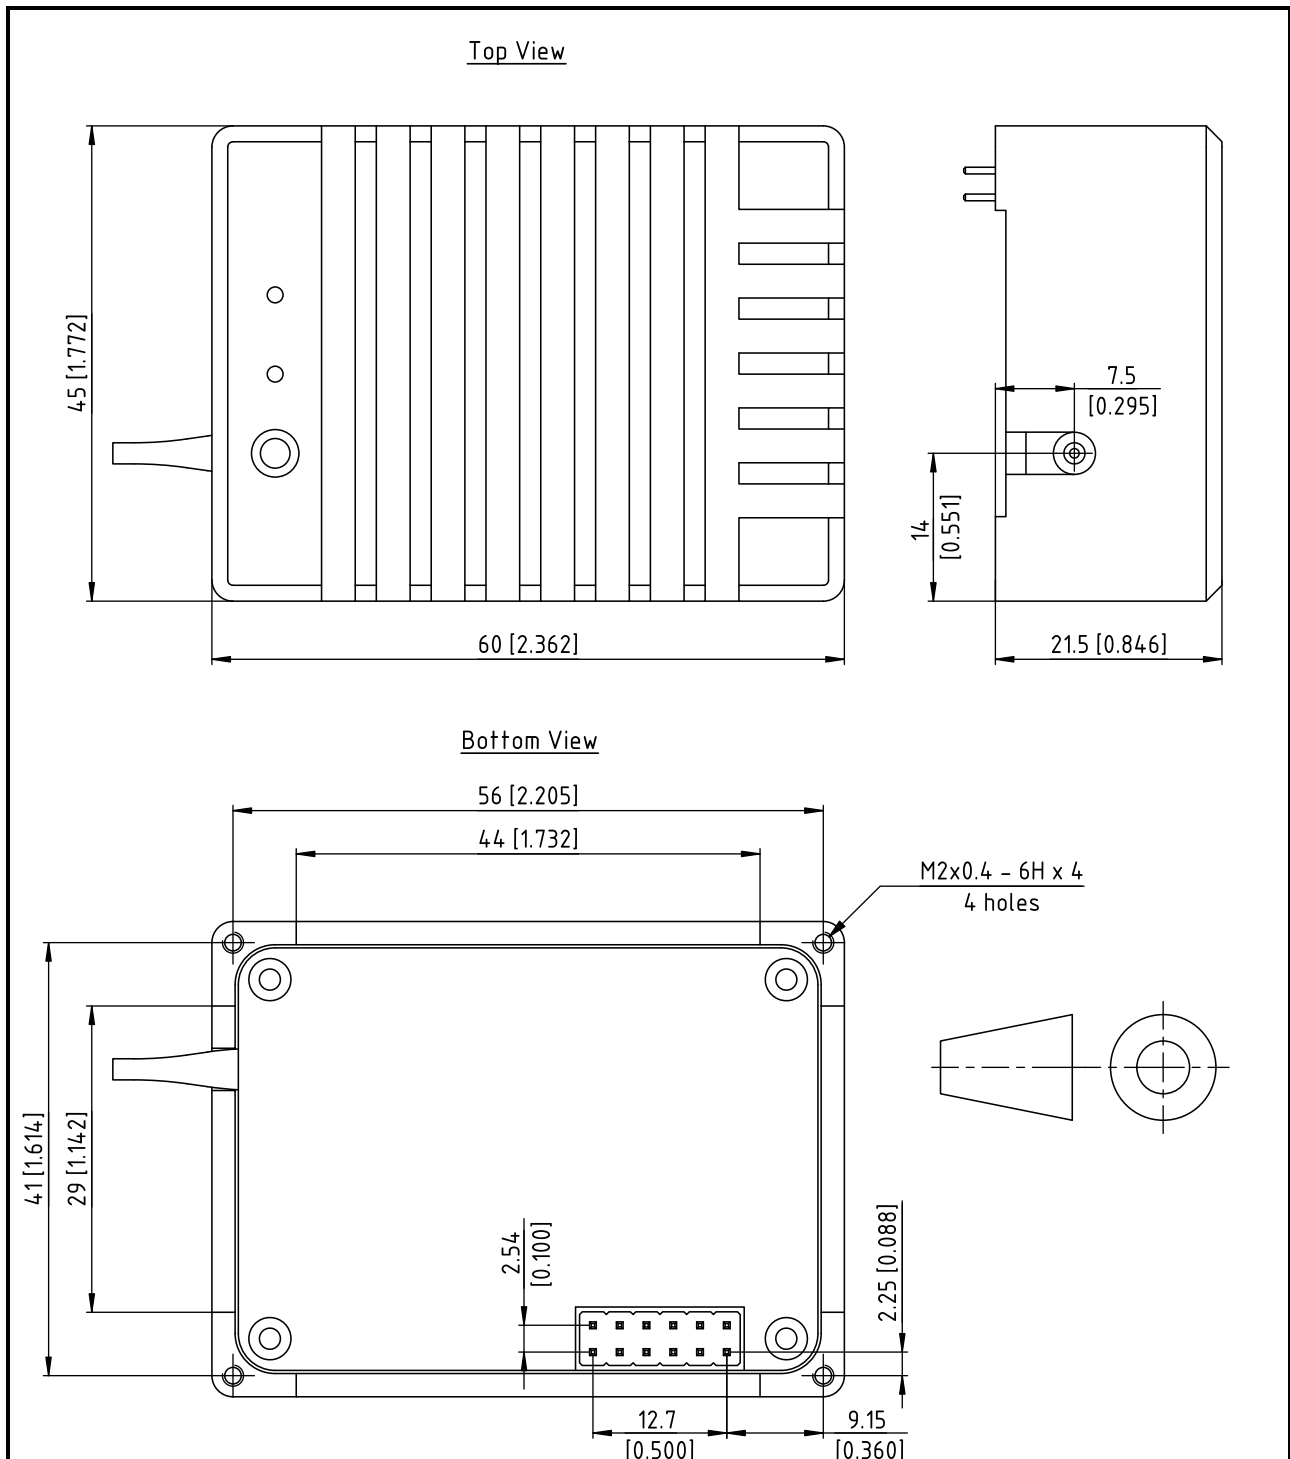

Figure 1. Drawings of Light Source. Dimensions are in millimeters [inches]
Temperature control is an essential factor when considering where and how you will integrate this light source into your application. Please contact Superlum should you have any queries about the BLL thermal management during installation and operation. A forced air circulation system around the enclosure is strongly recommended. To ensure the maximum effective heat dissipation, the Light Source may be mounted to an appropriate heatsink in any spatial orientation with 25mm of free space around the sides and cover to allow air circulation. The Light source should be anchored to a flat plate heatsink large enough to accommodate the light source base's entire footprint (see section 1.4; Figure 1. Drawing of Light Source) using the four (4) anchoring holes.